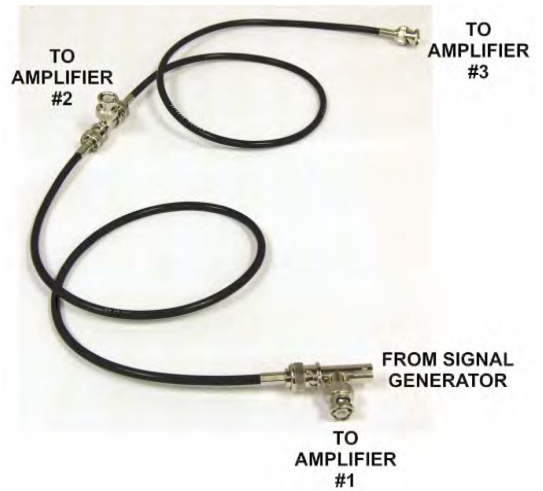

Figure 4.12 – Optional BNC Parallel Input Wiring (Three in Parallel shown)
5. Alternately, you can connect an unbalanced input signal to the SIM-BNC’s BNC input connector using the optional BNC PARALLEL INPUT KIT as shown in **Figure 4.12**. Set the INPUT SELECT switch located on the SIM-BNC input card on each amplifier to the LEFT position (unbalanced setting).